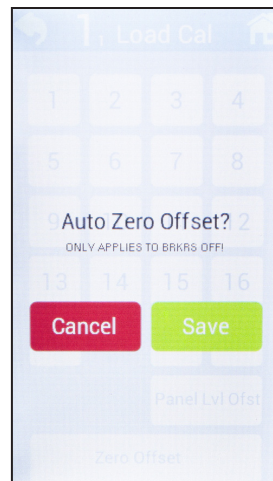

Figure 63. Auto Zero Offset
- To set load offset for all 22 breakers at once, select Panel Lvl Ofst. Tap the (-) or (+) buttons to manually adjust panel level offset. This feature applies manual offset to all 22 breakers on the corresponding panel and is useful before connecting any load if all of the breakers are showing 1-2A per channel. (see Figure 63).